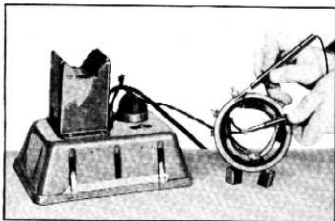

Fig. 30—Positive Terminal Test for Ground
1. Place one test prod on the terminal and the other on the generator frame (fig. 30).